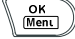

Figure 1-18
1. Press  to open the OSD (Figure 1-18).